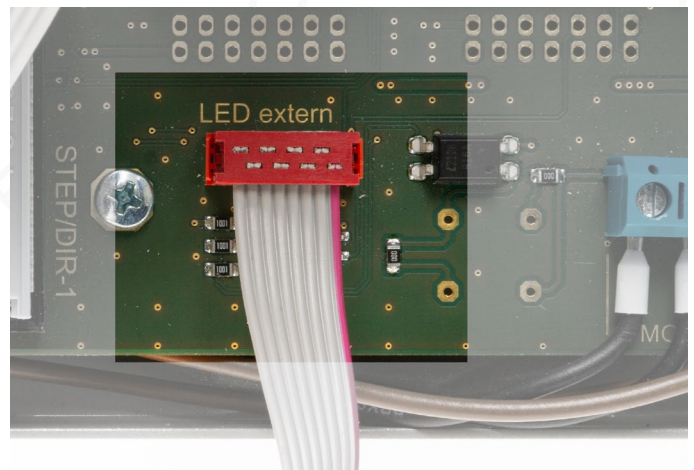

Fig. 33: Connector on the MC Bob
- Plug the other end of the connection cable into the red socket on the MC Bob as shown in Fig. 33.